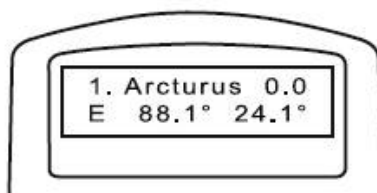

Fig. 40
4. The hand control will generate a list of stars located within this region that are brighter than magnitude 1.5, starting from the brightest to the dimmest. Stars and planets below 10 degrees or higher than 75 degrees above the horizon will be filtered out. The name and magnitude of the alignment star will be displayed on the first line of the LCD. The approximate position will be prompted on the second line. For example, if Arcturus is displayed as an alignment star, its magnitude (0.0) and its location (88.1 ° east and 24.1 ° above the horizon) will appear as shown in **Fig. 40** Press **ENTER** to continue.